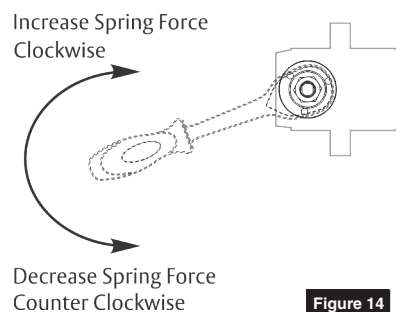

Figure 14
1. Using 1/2" socket wrench with 3/4" deep well socket, turn nut in end of closer body tube to desired force. (Figure 14)